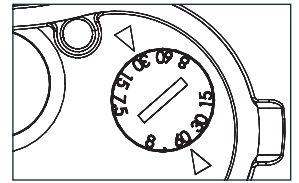

Figure 10: Transformer Tap
9. Determine the proper wattage setting for each speaker in the installation and set each speaker's transformer tap selector (see Figure 10).